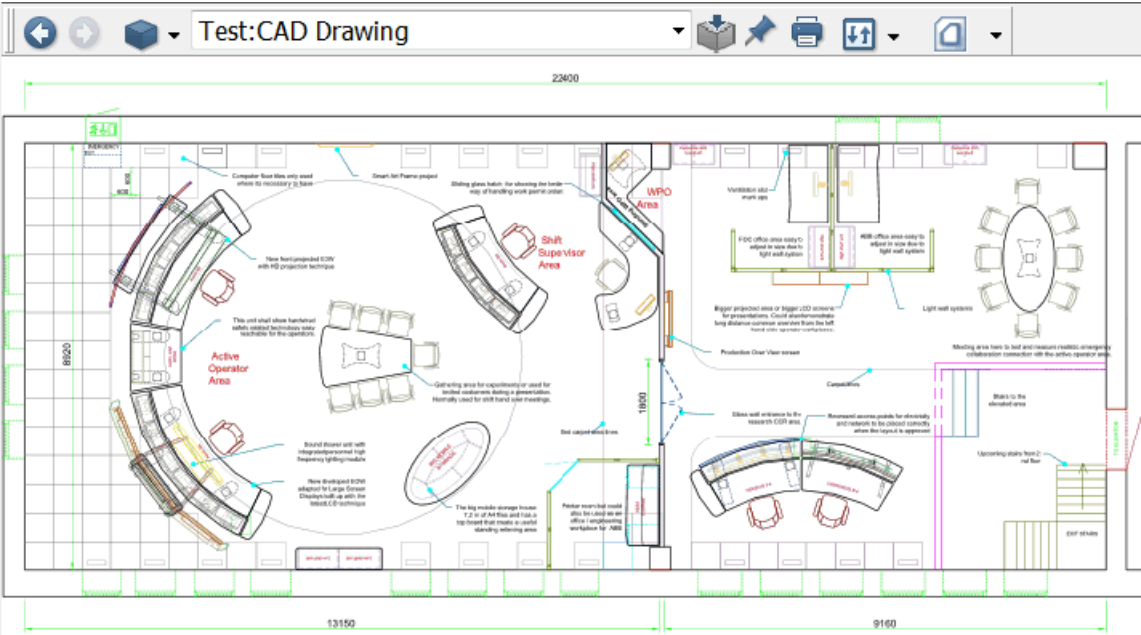

Figure 308. CAD Drawings - Main View
4. Right-click the **CAD Drawing** aspect and select **Main View** from the context menu, see Figure 308.